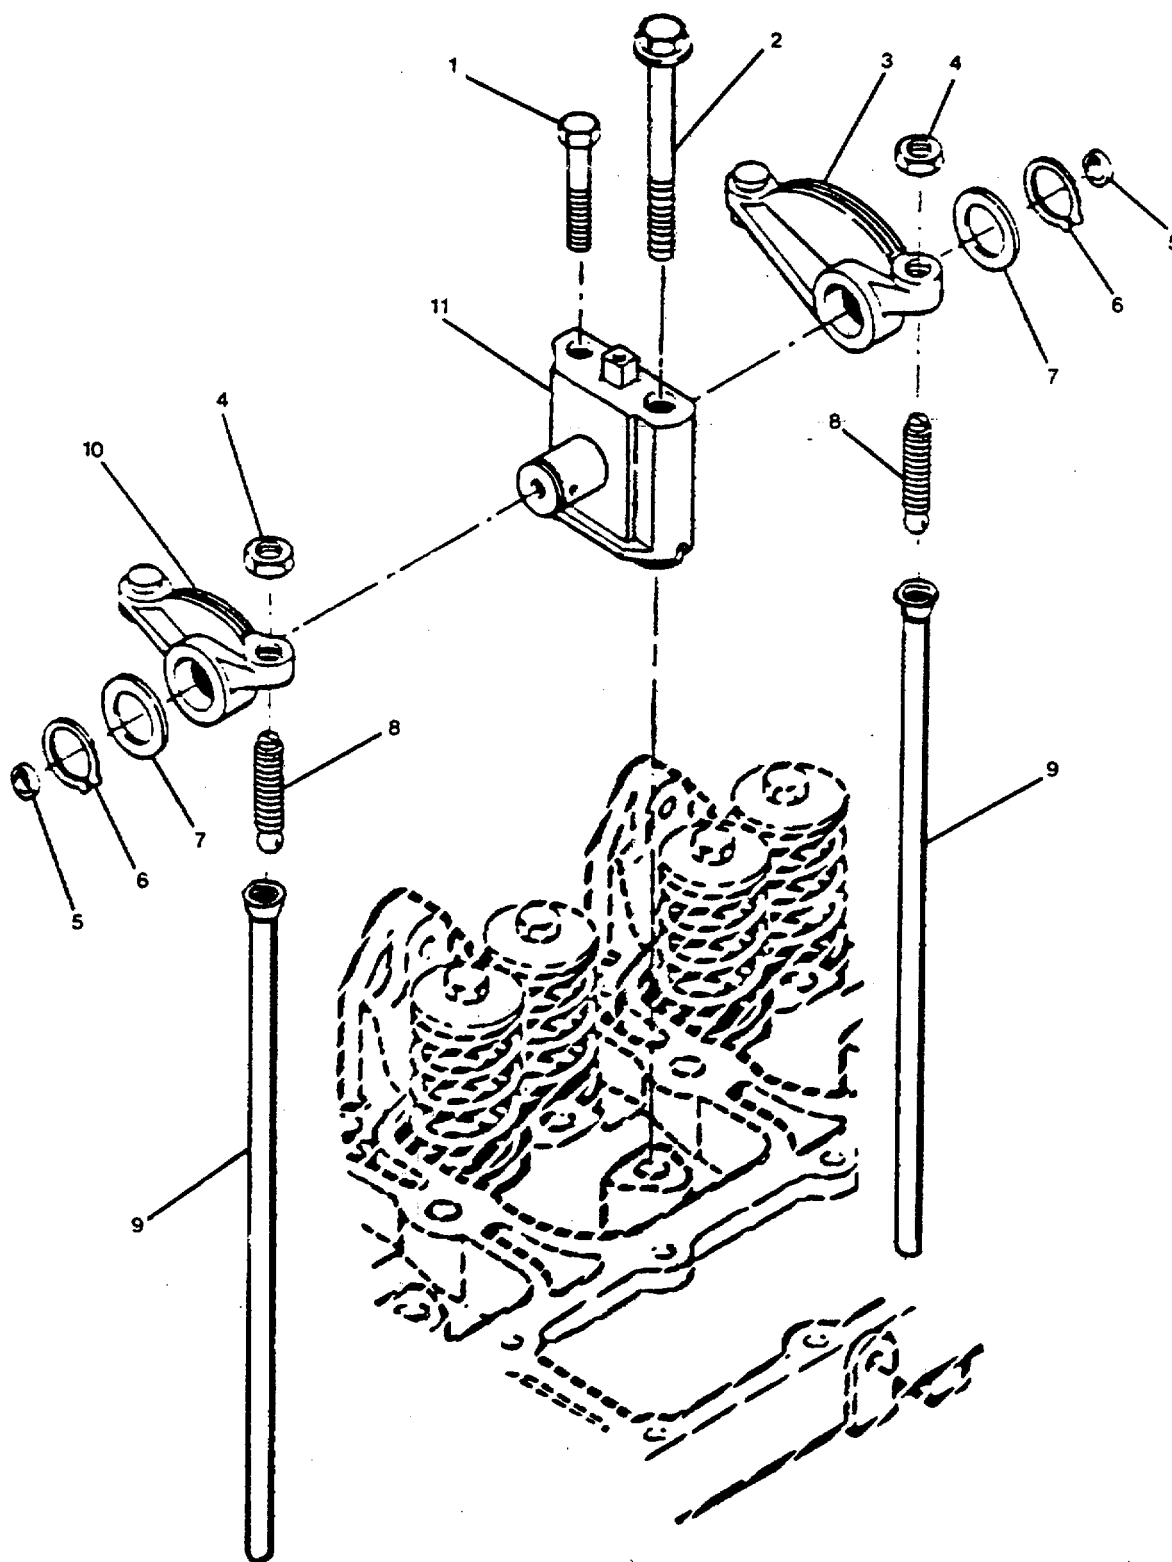

FIGURE 3-38. Rocker Lever Repair.
- b. Remove Rocker Levers. (FIGURE 3-38)
- (1) Loosen lock nuts (4) on rocker lever adjusting screws (8) and loosen screws until they stop.
- (2) Remove capscrews (1) from the support (11).
- (3) Remove support/head bolts (2) from the shaft support.
- (4) Remove expansion plugs (5), retaining rings (6), and flat washer (7).
- (5) Remove rocker lever (10, 3) nuts (4), and machine screws (8) from push rods (9).
- (1) Install adjusting screws (8, FIGURE 3-38), and lock nuts (4) in rocker levers (3, 10).
- (4) Install rocker levers on support (11, FIGURE 3-38). Replace washers (7), retaining rings (6), and expansion plugs (5).
- (5) Install rocker levers and support in housing and secure with capscrews (1) and support bolts (2). Torque support bolts to 18 ft-lb (24 N-m).